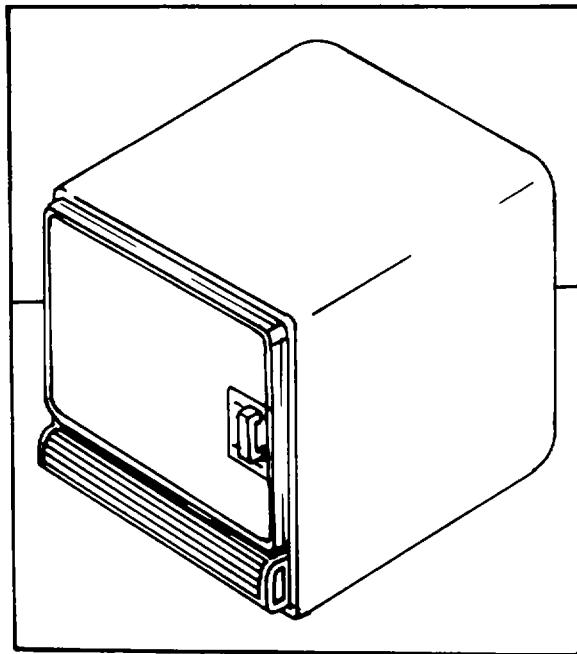

Figure 1-16. Refrigerator
h. *Refrigerator* (Figure 1-16). The refrigerator is mounted on the curbside of the laboratory. It operates on 11 OV, 60Hz, single-phase power. It provides 6.5 cubic feet (0.182 cubic meters) of refrigerated storage.